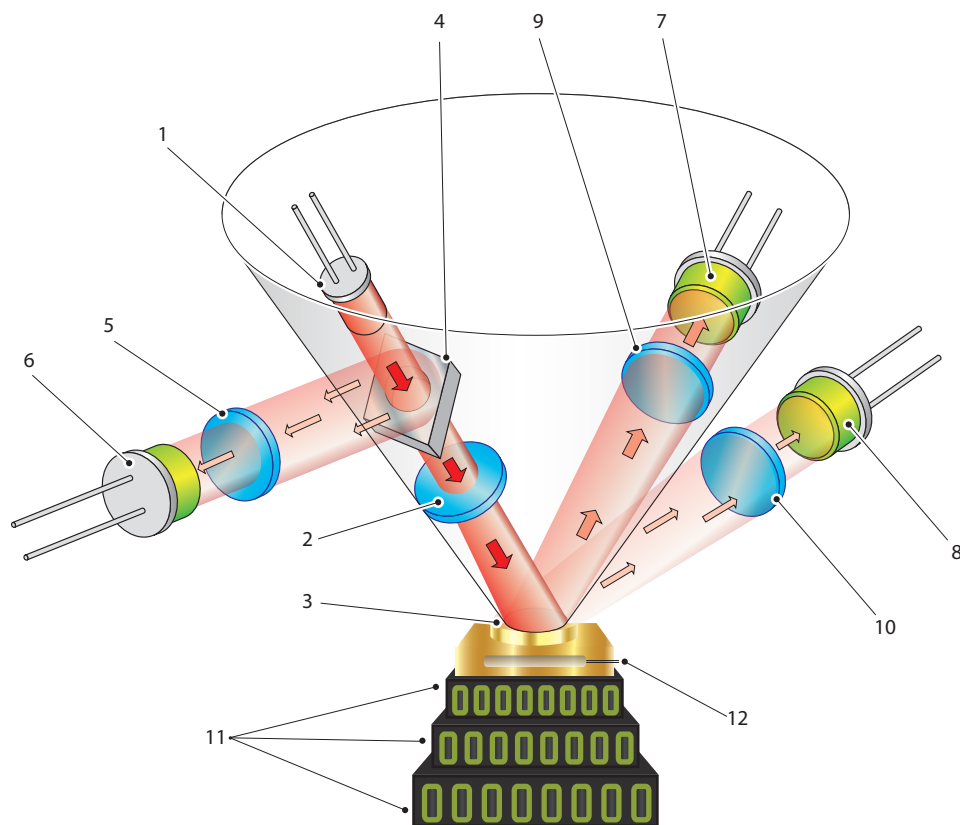

Figure 2      *Operating Principle*
A light emitting diode (1) (see *Figure 2*) provides a light beam of constant intensity which is focused by a lens system (2) to become the incident beam on the mirror surface (3), flooding it with a pool of light.